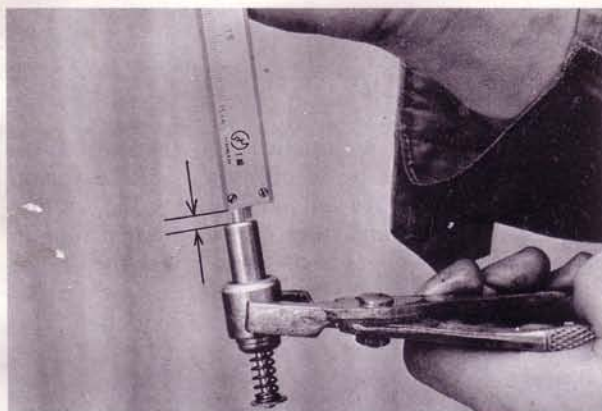

Fig. 2-15 Checking by-pass valve
2. Soak the by-pass valve in hot oil of $75^\circ\text{C} \sim 80^\circ\text{C}$ ($167^\circ\text{F} \sim 176^\circ\text{C}$). If the protrusion of piston is more than 5 mm (0.2 in), the by-pass valve is normal. (Fig. 2-15)